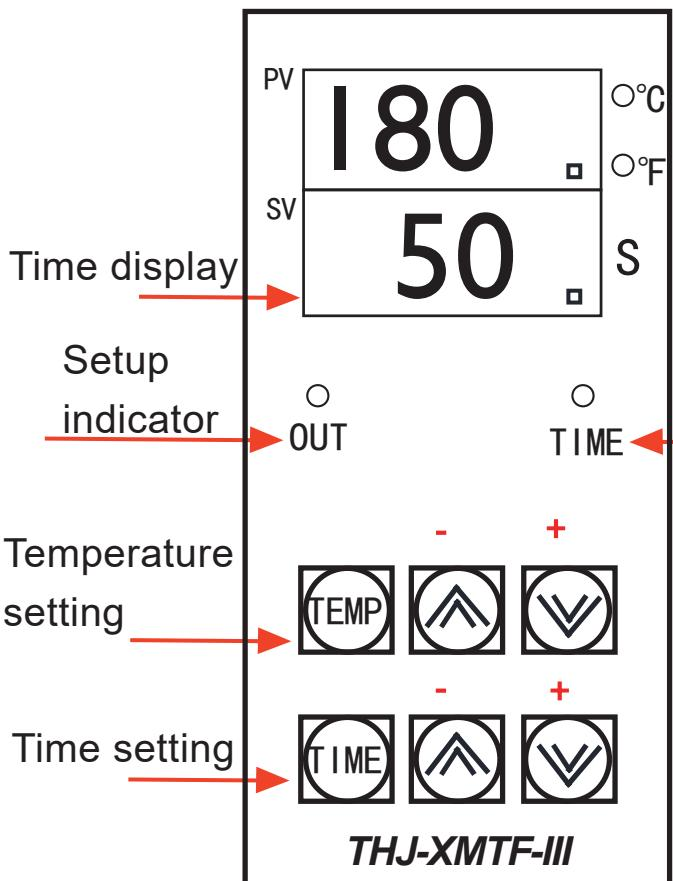

Figure 3
b. Fahrenheit degree selection: as shown in Figure 3, the “Fahrenheit degree indicator” indicates whether the temperature is displayed in Fahrenheit degree. Since there are a variety of ways to switching between Fahrenheit degree and Celsius degree, specific switching methods are not introduced in this user manual. If there is any need for temperature unit swathing, please contact the distributor or the manufacturer or use the formula below: 【